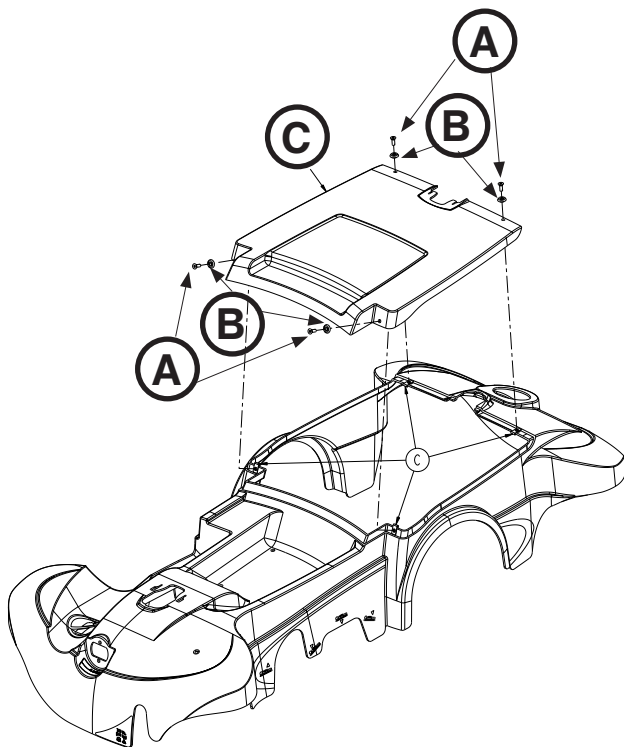

Figure 25
3. Remove the four flat head cap screws (A) and washers (B) that hold the **Zoom®** carriage access panel (C) to the plastic base hood (Figure 25). Remove the access panel and set it aside.